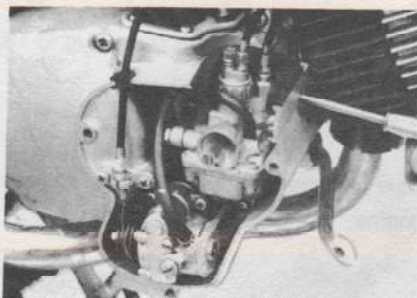

Fig. 3-5
4. Remove the carburettor cover, take out the carburettor, and disconnect the fuel line. (Figs. 3-5 & 3-6)